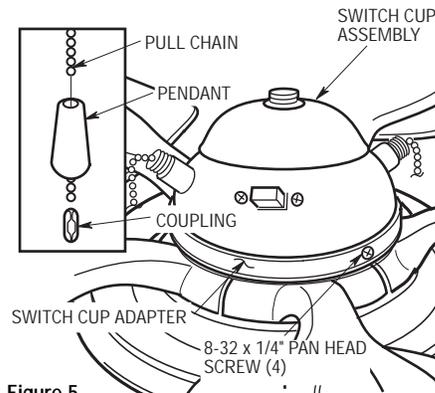

Figure 5
- 10. Position the switch cup assembly on the switch cup adapter. Line up the three holes in the switch cup with the threaded holes in the switch cup adapter and install four 8-32 x 1/4" pan head screws (supplied) (Figure 5).
- 11. Slip the longest pull chain through the hole in the large pendant (supplied) (Figure 5). Then secure the pendant by snapping the coupling (supplied) onto the end of the chain. Secure the small pendant (supplied) to the short chain in the same manner as above.